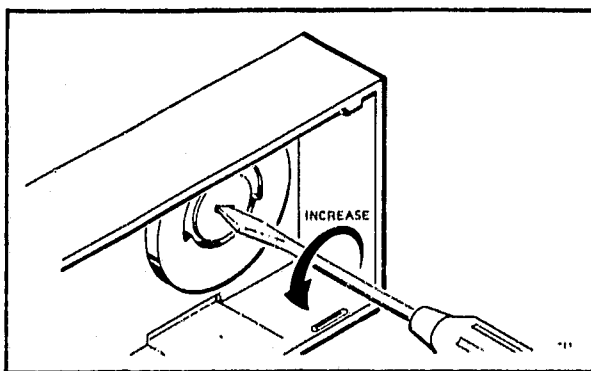

FIG. 8 - THERMOMETER CALIBRATION.
4. Insert a small screwdriver in the thermometer shaft (Fig. 8) and turn it until the thermometers read the same. When thermometer is calibrated, replace cover and place system and fan switches for desired operation.